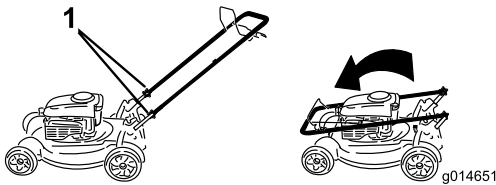

Figure 21
1. Loosen the handle knobs until you can move the handle freely (Figure 21).
1. Handle knob (2)
2. Move the handle forward as shown in Figure 21.